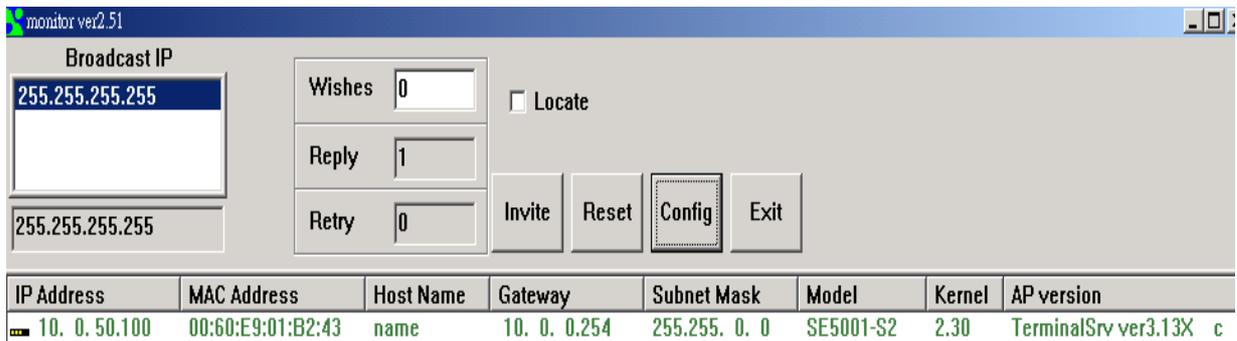
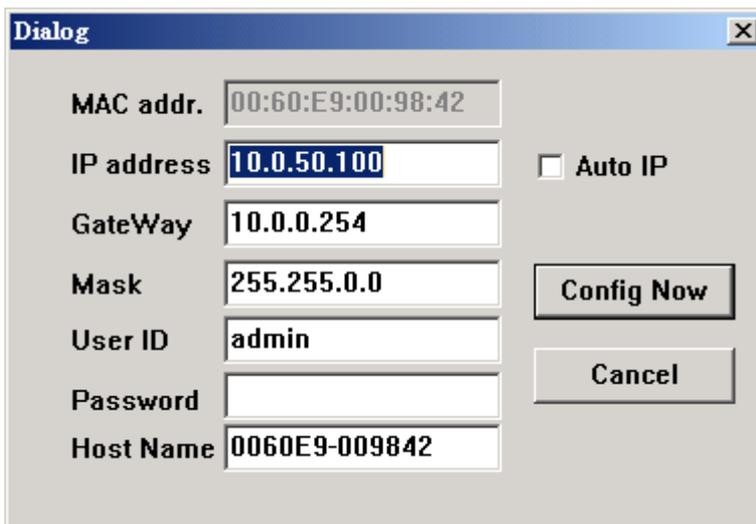

Figure 3.1. Configure by monitor.exe utility
Figure 3.2 Static IP setup dialog window
Use **monitor.exe** that comes with product CD to configure the network parameters of GW212/GW215. Please click "**Config**" button(ref Figure 3.1) then give it a static IP information.(ref Figure 3.2)
- >Execute Monitor.exe(ref Figure 3.1)